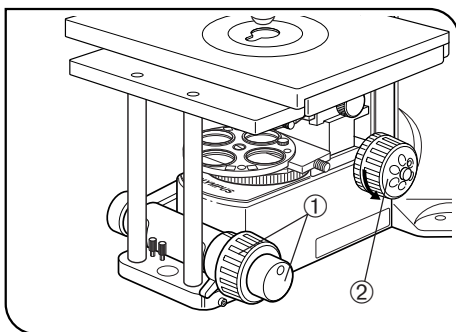

Fig. 46
Adjusting the Confocality of Objective (Figs. 46 & 47)
4. The objective to use the washer is determined by the rotation direction of the fine adjustment dial ②. (Fig. 46)
5. Remove the objective ③, fit the washer ⑤ with the required thickness on the screw ④, then attach the objective again.